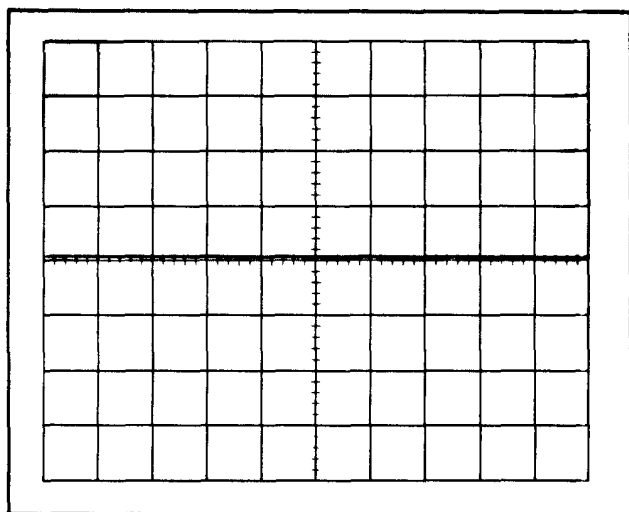

Fig. 5-10. Typical CRT display showing correct channel isolation ratio.
- f. CHECK—CRT display 0.1 division or less in amplitude (channel isolation ratio 100,000:1 or greater; see Fig. 5-10).
i. CHECK—CRT display 0.1 division or less in amplitude (channel isolation ratio 100,000:1 or greater; see Fig. 5-10).